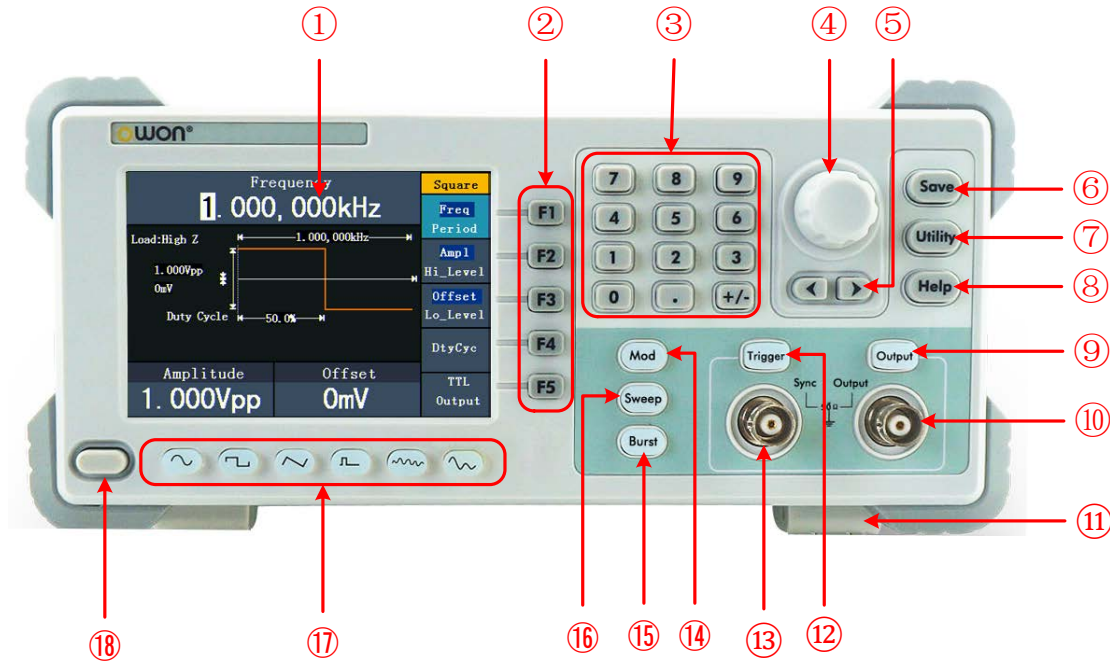

Figure 4-1 Front panel overview (the model with "F" is shown)
Unfold the foot stools on the bottom of the generator, as ⑪ in *Figure 4-1*.